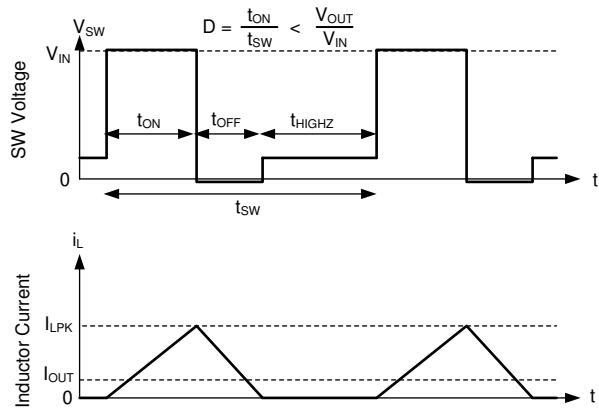

**Figure 7-7. SW Voltage and Inductor Current Waveforms in Continuous Conduction Mode (CCM)**
The following operating description of the TPSM8F7x20 refers to Functional Block Diagram and the waveforms in Figure 7-7. Both supply a regulated output voltage by turning on the internal high-side (HS) and low-side (LS) NMOS switches with varying duty cycle (D). During the HS switch on-time, the SW terminal voltage,  $V_{SW}$ , swings up to approximately  $V_{IN}$ , and the inductor current,  $i_L$ , increases with a linear slope. The HS switch is turned off by the control logic. During the HS switch off-time,  $t_{OFF}$ , the LS switch is turned on. Inductor current discharges through the LS switch, forcing  $V_{SW}$  to swing below ground by the voltage drop across the LS switch. The regulator loop adjusts the duty cycle to maintain a constant output voltage. D is defined by the on-time of the HS switch over the switching period:  $D = T_{ON} / (T_{ON} + T_{OFF})$ .